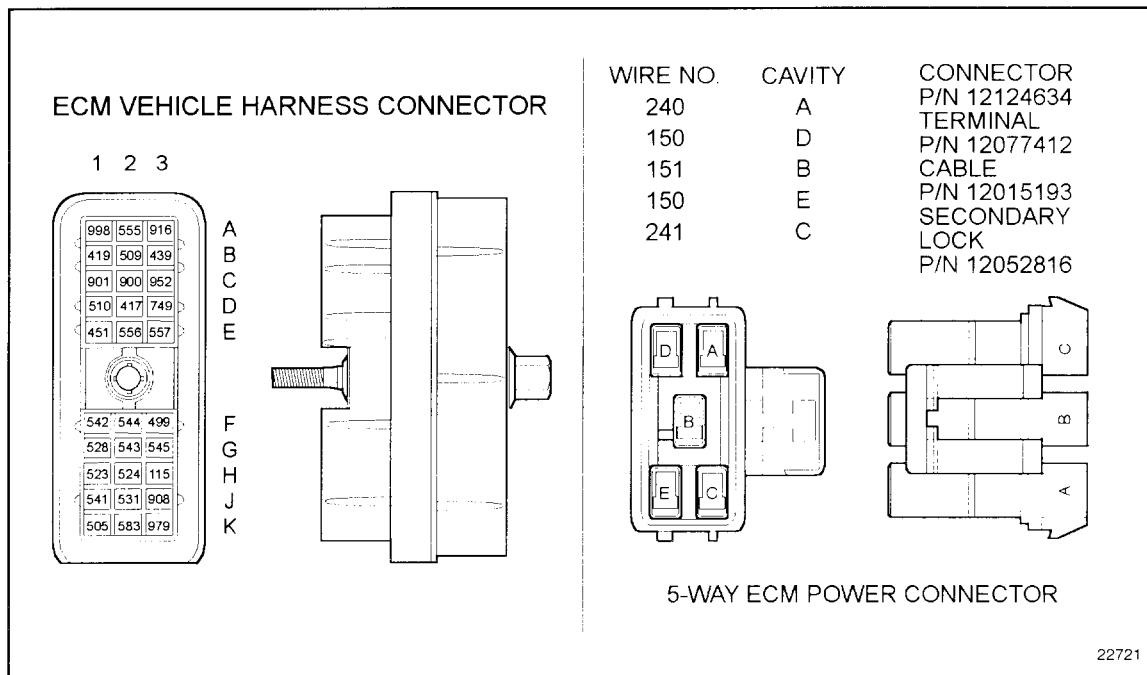

Figure 34-7 ECM Vehicle Harness Connector
4. Measure resistance between socket W1 on the engine harness connector and socket B3 of the vehicle harness connector, and between W1 and the 5-way power harness sockets A and C. See Figure 34-7.